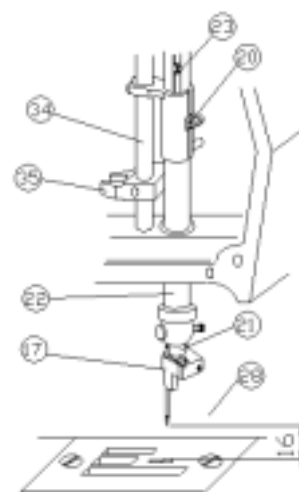

FIG. 9
Unscrew completely the screw (20) of the guide clamp. Check that the inner rod (21) of the needle bar slides freely inside the outer bar (22) and if necessary realign the boss (23) so that there is no friction. FIG.9